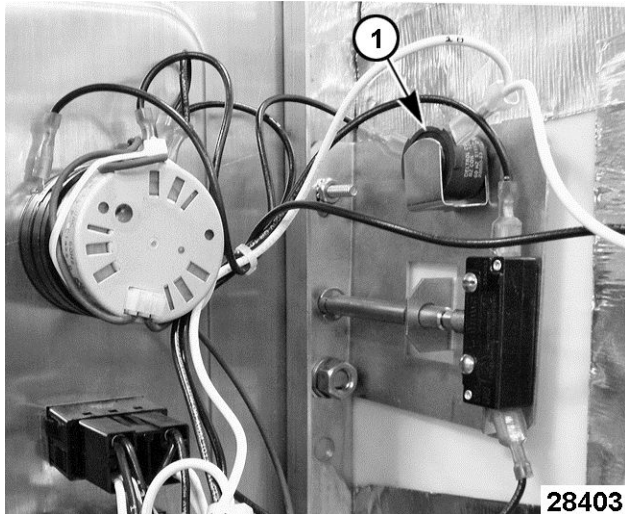

Fig. 83
2. Locate the buzzer [1] Fig. 83 mounted to the door switch mounting bracket.